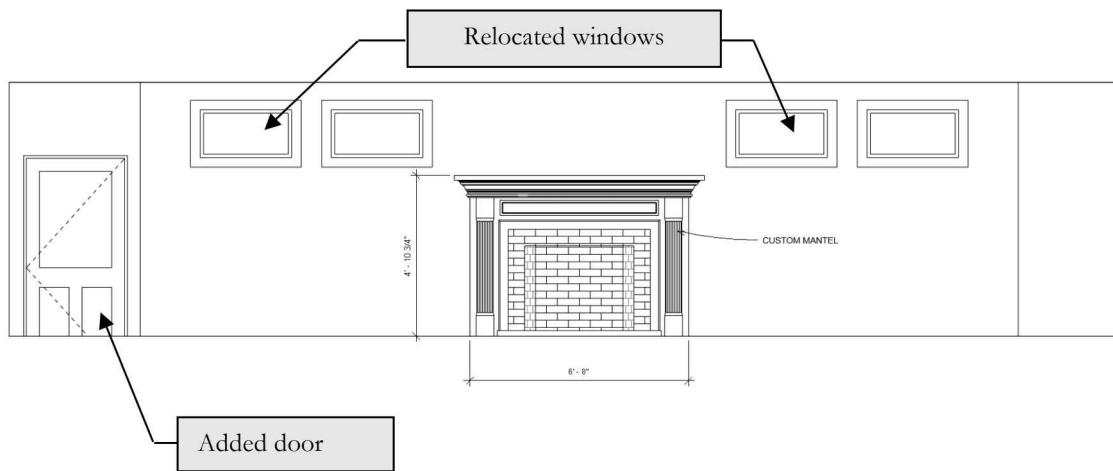

FIGURE 10-4.1 Living Room - East - modified
6. In the *Living Room - East* elevation view, use the **Door** tool to place a **Door-Exterior-Single-Entry-Half Flat Glass-Wood_Clad: 36" x 80"** door in the wall to the far left (North). See Figure 10-4.1.
You may notice, in Figure 10-4.1, that the door bottom is below the floor level; this is a problem only if your cursor was near the bottom of the wall when you clicked. You will fix it next.